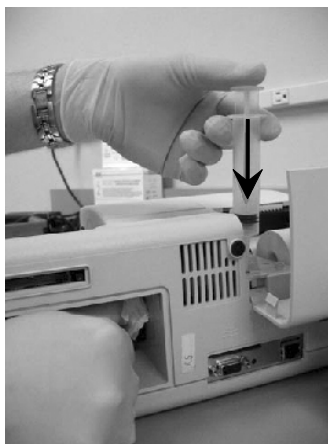

Fig. 7-56 Apply pressure to rear pump port.
18. Remove the paper towel and block the top port of the fluid pack receptacle with the gloved finger. Slightly pressurize the syringe and check for the tube to be blocked (Fig. 7-56).